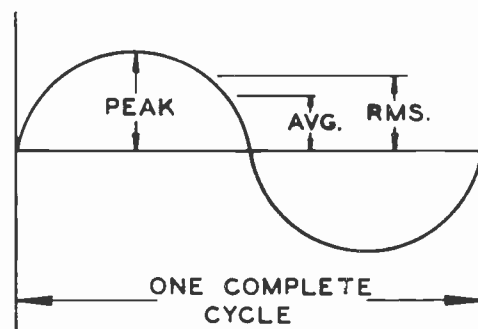

FIG. 1D
V.T.V.M. because in the truest sense of the word it is self-calibrating, and because it does not draw current from the circuit under test. This last advantage follows from the fact that when the negative bucking voltage is exactly equal to the peak positive voltage applied to the plate, the V.T.V.M. circuit will have an infinite resistance to the a-c voltage and no current will flow in the diode from filament to plate (with the exception of the very small current drawn to charge the plate to filament capacity of the diode—which we may ignore for service work). We have mentioned “average,” “RMS” and “peak” volts a-c and it may be well before going further to show how these three terms are related for a sine wave type of wave form. The peak voltage of course means the voltage between the zero potential point and the very peak of the a-c wave; RMS volts is equal to .707 times this value; and average volts is equal to .604 times the peak voltage. This relationship is shown graphically in figure 1D). In service work it is not important which of these readings we secure, for most applications, as long as we know what it is. Since all of our service meters are calibrated in RMS volts and we must use RMS volts in measuring power, it is somewhat of an advantage to have our V.T.V.M. calibrated in RMS if a choice is to be made.